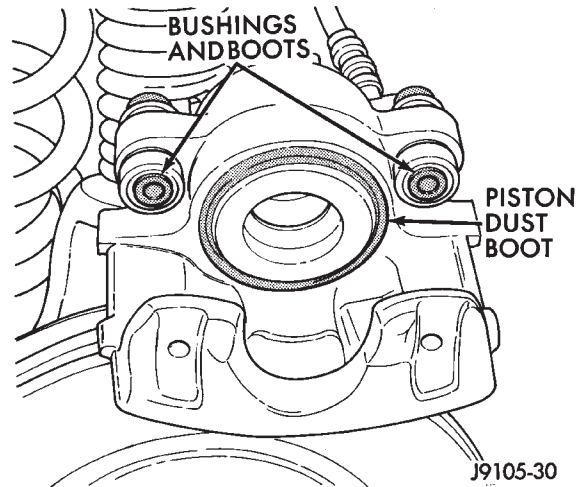

Fig. 9 Caliper Dust Boots And Bushing Locations
(10) Support caliper on box, mechanics stool, or secure it to nearby suspension part with wire. **Do not allow brake hose to support caliper weight.**
(11) Wipe caliper off with shop rags or towels. **Do not use compressed air. Compressed air can unseat dust boot and force dirt into piston bore.**
(12) Inspect condition of caliper piston dust boot (Fig. 9). Overhaul caliper if there is evidence of leakage past piston and dust boot. Then inspect caliper bushings and boots (Fig. 9). Replace boots if torn or cut. If bushings or boots are damaged, replace them.